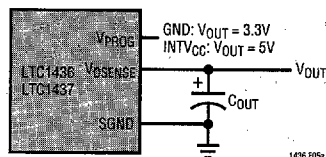
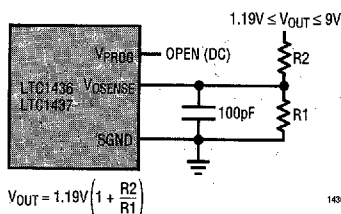

Figure 5a. LTC1436/LTC1437 Fixed Output Applications
Figure 5b. LTC1436/LTC1437 Adjustable Applications
The LTC1436/LTC1437 family also has remote output voltage sense capability. The top of an internal resistive divider is connected to VOSENSE. For fixed 3.3V and 5V output voltage applications the VOSENSE pin is connected to the output voltage as shown in Figure 5a. When using an external resistor divider, the VPROG pin is left open (DC) and the VOSENSE pin is connected to the feedback resistors as shown in Figure 5b.